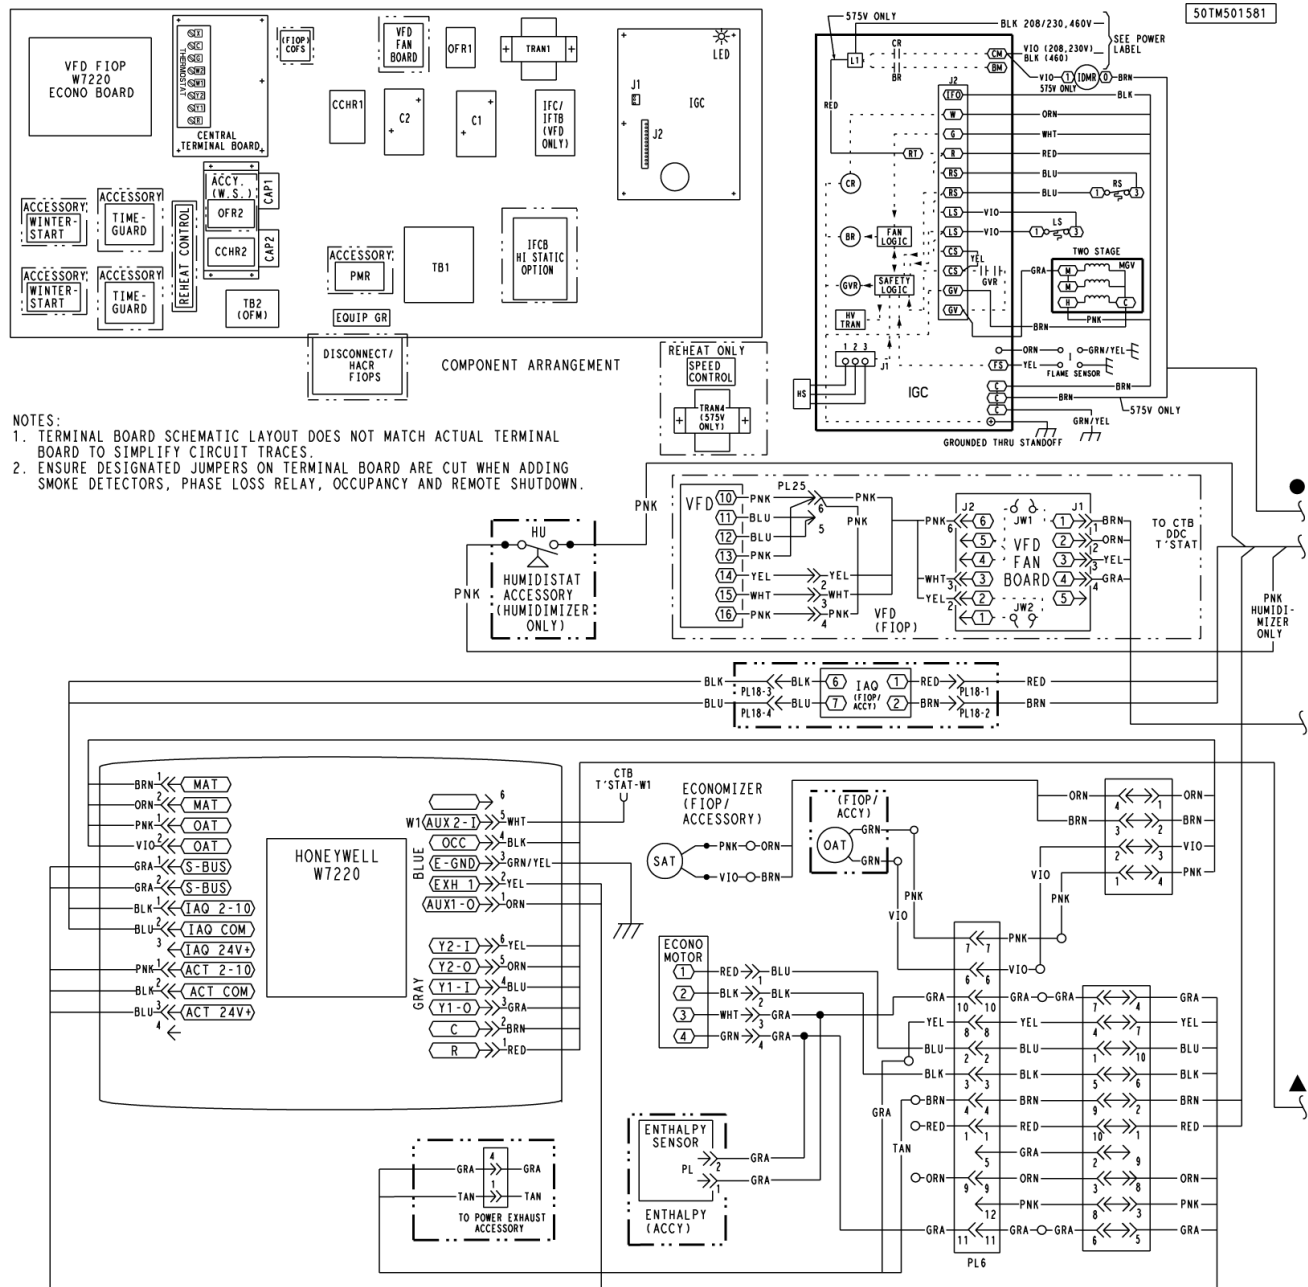

Fig. 5 - Typical EconMi\$er X Wiring Diagram
4. Use the sheet metal screw (no. 8) for use with Step 3 to mount the HH79ZZ7 dry bulb sensor on the front left of the EconomiSer X frame, as shown in Fig. 5. Use the screw hole in the EconomiSer X frame.